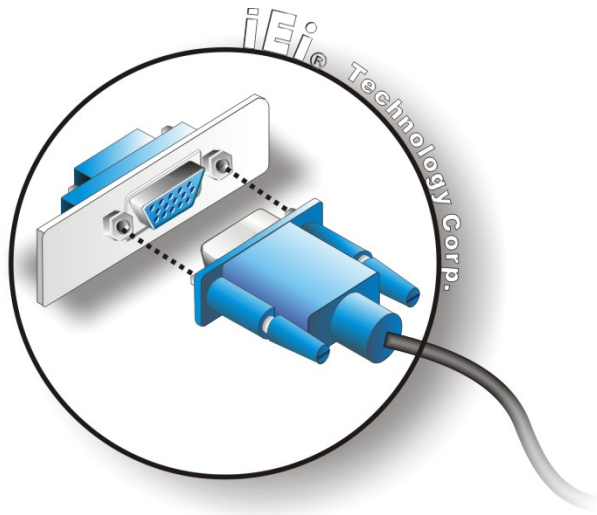

Figure 4-15: VGA Connector
- Step 3:** **Insert the VGA connector** Once the connectors are properly aligned with the insert the male connector from the VGA screen into the female connector on the PCIE-G41A2. See **Figure 4-15**.